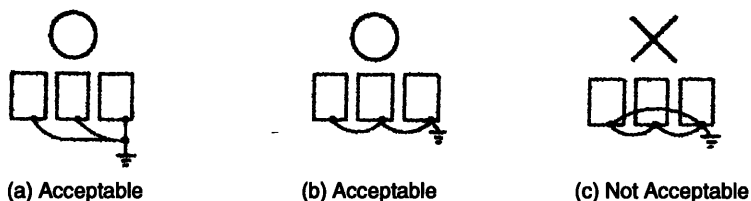

Fig. 10 Grounding of Three Inverter Units
- When using several inverter units side by side, ground the units as shown in Fig. 10, (a) or (b). Do not loop the ground wires as shown in (c).